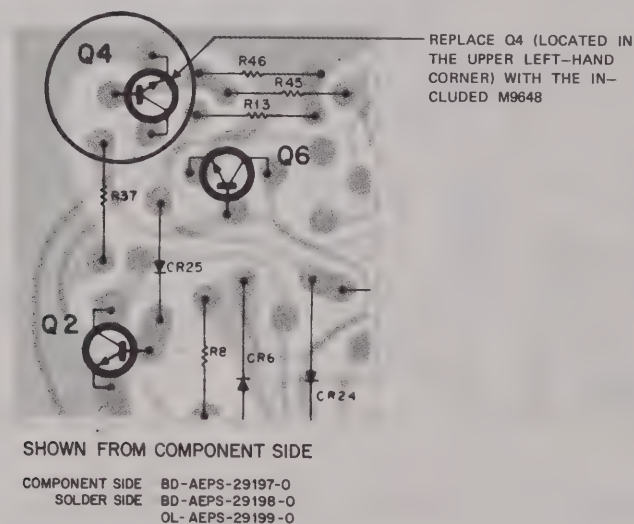

Figure IV-1. Q4 Location on TLN5252 and TLN5254 Supervisory Boards
2. To ensure sufficient "PULSAR 100", or "PULSAR II" microphone audio muting, Q4 on the radio supervisory board must be a type M9648. Early versions of the supervisory boards used a type M9642 transistor, which should be replaced with a type M9648. Refer to Figure IV-1 for location details.